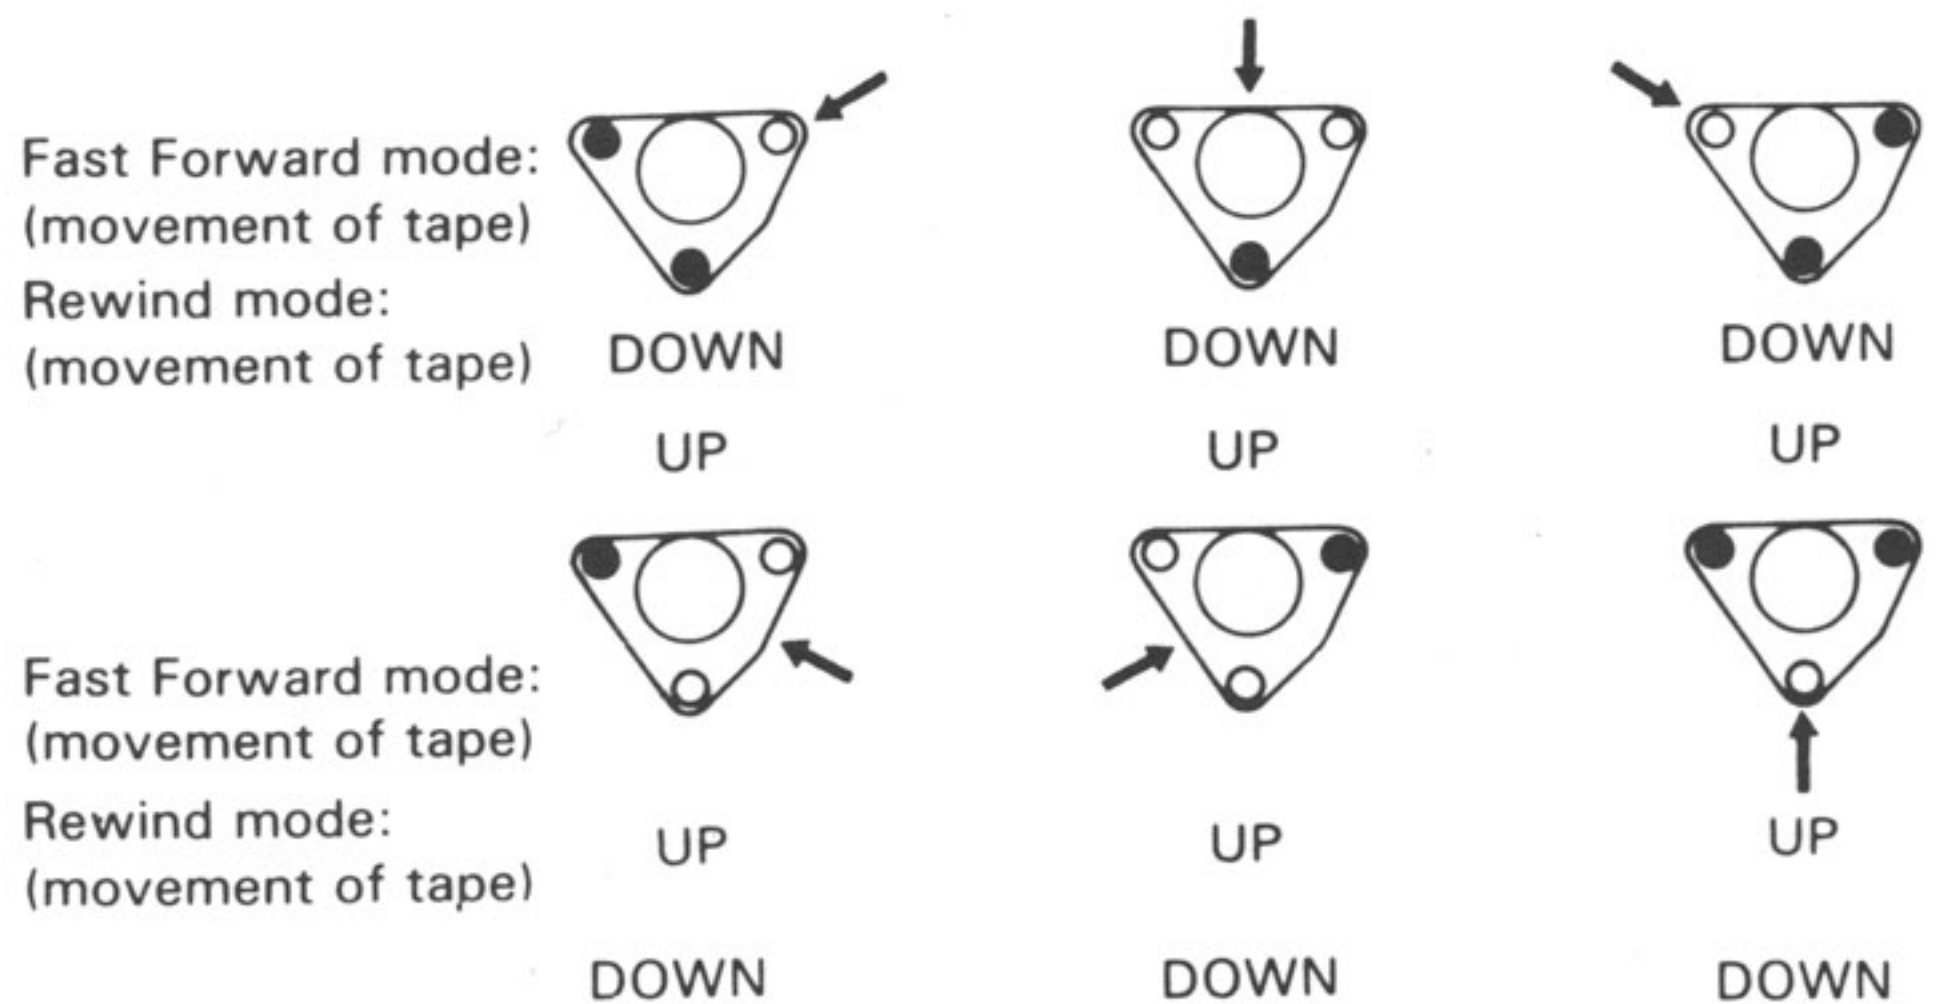

Figure 6-7. Effect of Timer Roller on Tape Movement
- STEP 1.** Lightly press the timer roller cap and find the direction in which the tape does not move up or down in Rewind or Fast Forward Shuttle modes. Figure 6-7 shows the direction the tape will take, be it up or down, if a roller shim is installed at that particular installation boss.